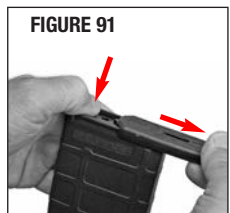

FIGURE 91
- While keeping the magazine body pointed away from you or anyone else and with your thumb over the exposed body to prevent the spring from flying out (FIGURE 91) slide the floorplate off the magazine body.